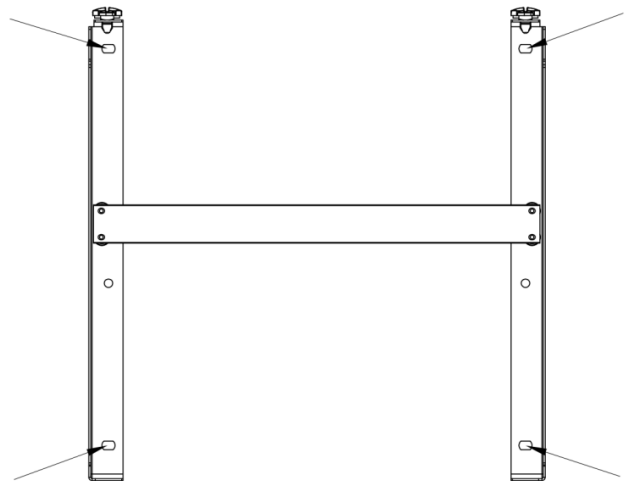

Fig. 2
2. Don't use in bathroom and don't cover. Fig 2
3. Take out the H shape bracket from the back of the product. Put it on the wall and mark the 4 holes' position on the wall as Fig 2. Drill the holes($\Phi 10$) on the wall.